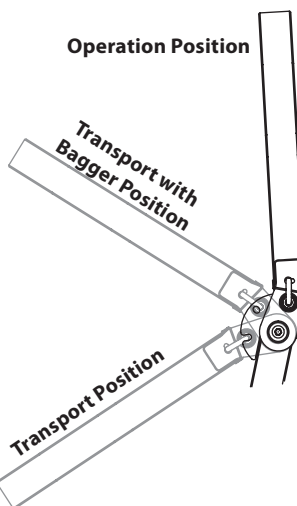

Figure 3
Refer to Figure 3 and the following descriptions and uses for the three (3) positions for the Upper ROPS.